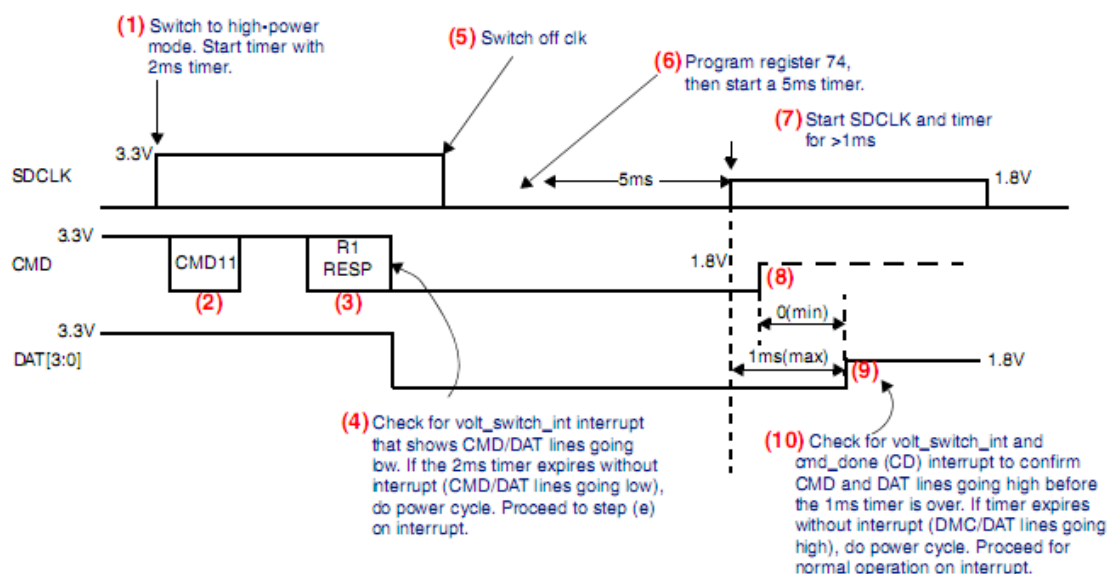

Fig. 17-17 Voltage Switch Normal Scenario
*Note: Before performing a power cycle, switch off the card clock by programming CLKENA register; no cmd\_done (CD) interrupt is generated.*
Additionally, if the card detects a voltage error at any point in between steps (5) and (7) in Figure 17-17, the card keeps driving DAT[3:0] to low until card power off.
3. The host controller generates a voltage switch interrupt once the CMD and DAT[3:0] lines go high. The application should check for an interrupt to confirm CMD and DAT lines going high before the 1 ms timer is done. If the 1 ms timer expires without interrupt (VOLT\_SWITCH\_INT) and cmd\_done (CD), a power cycle should be performed. Program the CLKENA register to stop SDCLK of the corresponding card. Wait for the cmd\_done interrupt. Proceed for normal operation on interrupt.